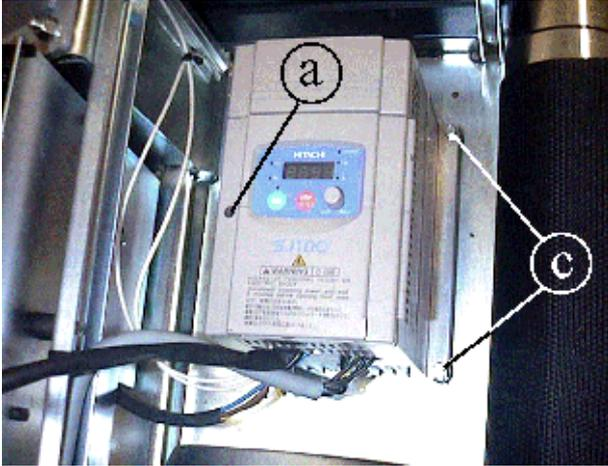

Figure 7.15-1
4. Unscrew the 4 fixing screws **c** (shown in Figure 7.15-1) using an 8-mm wrench holding the nut underneath in place with an 8-mm wrench.